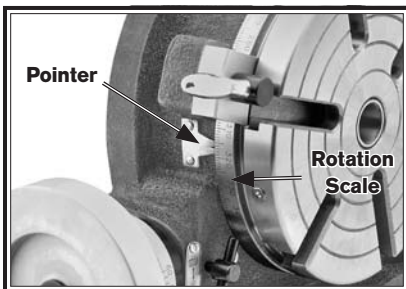

Figure 10. Location of the rotation scale pointer.
2. Use the handwheel to rotate the table until the 0° on the table rotation scale aligns with the center mark on the pointer (see **Figure 10**).